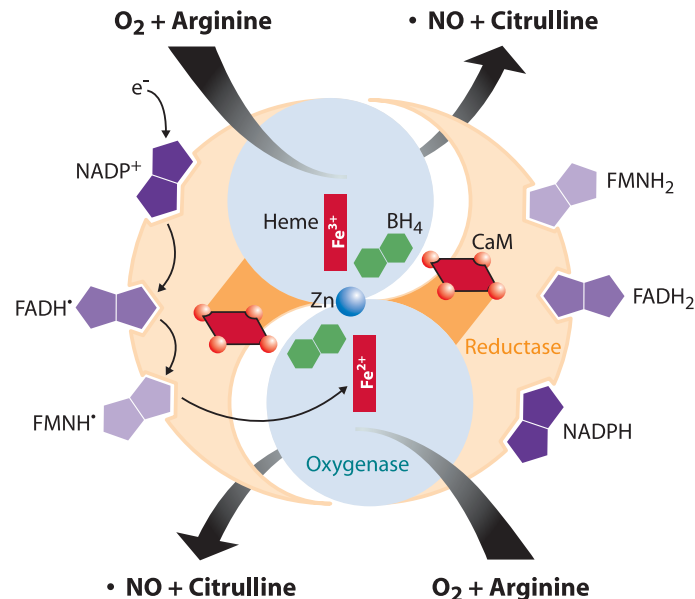

Figure 1. Nitric Oxide Synthesis
Nitric Oxide (NO) is synthesized in biological systems by the enzyme Nitric Oxide Synthase (NOS). NOS is a remarkably complex enzyme which acts on molecular oxygen, arginine, and NADPH to produce NO, citrulline, and NADP^{+} . This process requires five additional cofactors (FMN, FAD, Heme, calmodulin, and tetrahydrobiopterin) and two divalent cations (calcium and heme iron; see Figure 1). Three distinct isoforms of NOS have been identified, as detailed in Figure 2 on page 6.